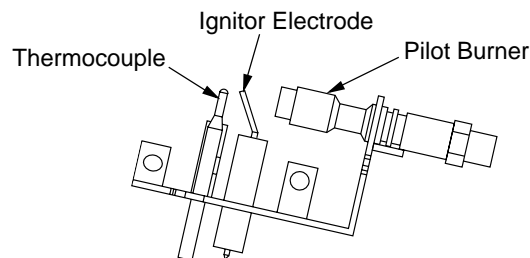

Figure 39 - Pilot
4. Wait five (5) minutes to clear out any gas. Then smell for gas, including near the floor. If you smell gas, STOP! Follow "B" in the safety information, column 1. If you don't smell gas, go to the next step.
5. Slightly depress and turn control knob counterclockwise  to the PILOT position. Press in control knob for five (5) seconds (see Figure 39).